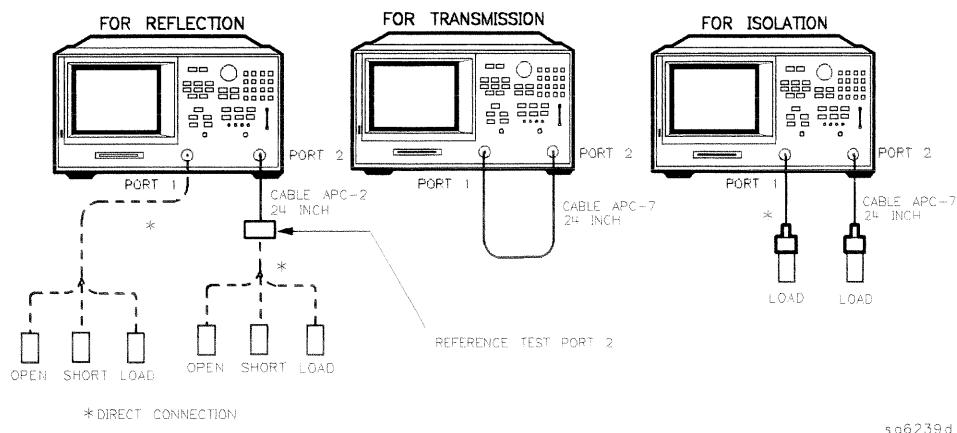

Figure 11-1. Standard Connections for Full Two-Port Error-Correction
17. Make a “thru” connection between PORT 1 and PORT 2, as shown in Figure 11-1.